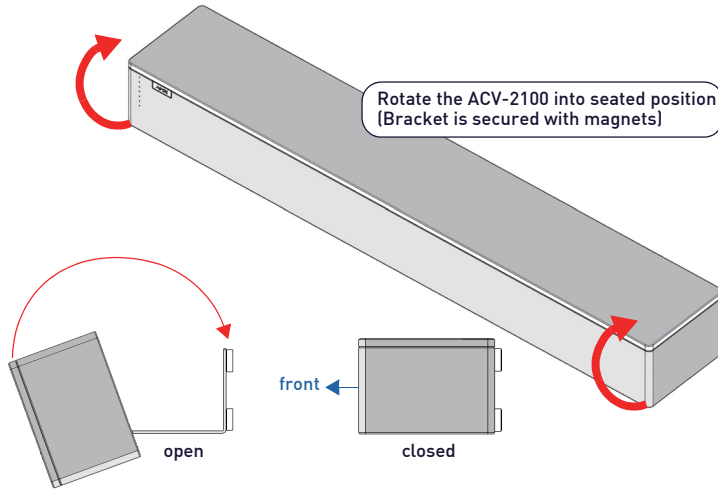

FIG. 6 ROTATING THE ACV-2100 INTO ITS SEATED POSITION
- Use the Wall Mount Bracket as a template to mark the locations for the (4) mounting screws (not included). Use mounting screws and hardware appropriate for the surface being utilized to secure the Bracket to the wall. *Optionally, place the four included Wall Mount Spacers between the Bracket/Door and the wall to create a 5mm gap for routing flat cables if not hiding them behind the drywall (see FIG. 6).*
- Rotate the ACV-2100 into seated position. The Wall Mount Bracket is secured with magnets (see FIG. 6).
After connecting all cables, close the Bracket to return the ACV-2100 to its seated position. The Bracket is secured via internal magnets (FIG. 6):